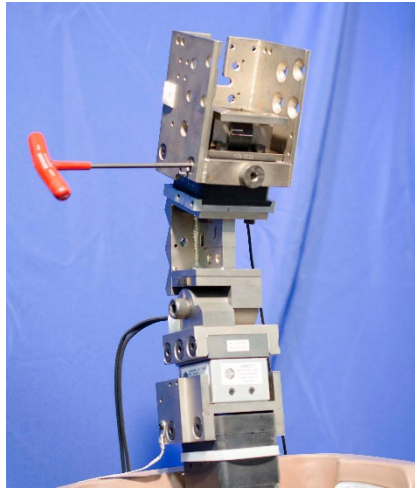

Figure 5-30. Secure upper thoracic spinebox weldment to upper thoracic spine flex joint
- 5.2.2.21 Attach the Upper Thoracic Spinebox Weldment (472-3620) to the Upper Thoracic Spine Flex Joint using four M6 x 1 x 10 FHCS (Figure 5-30).